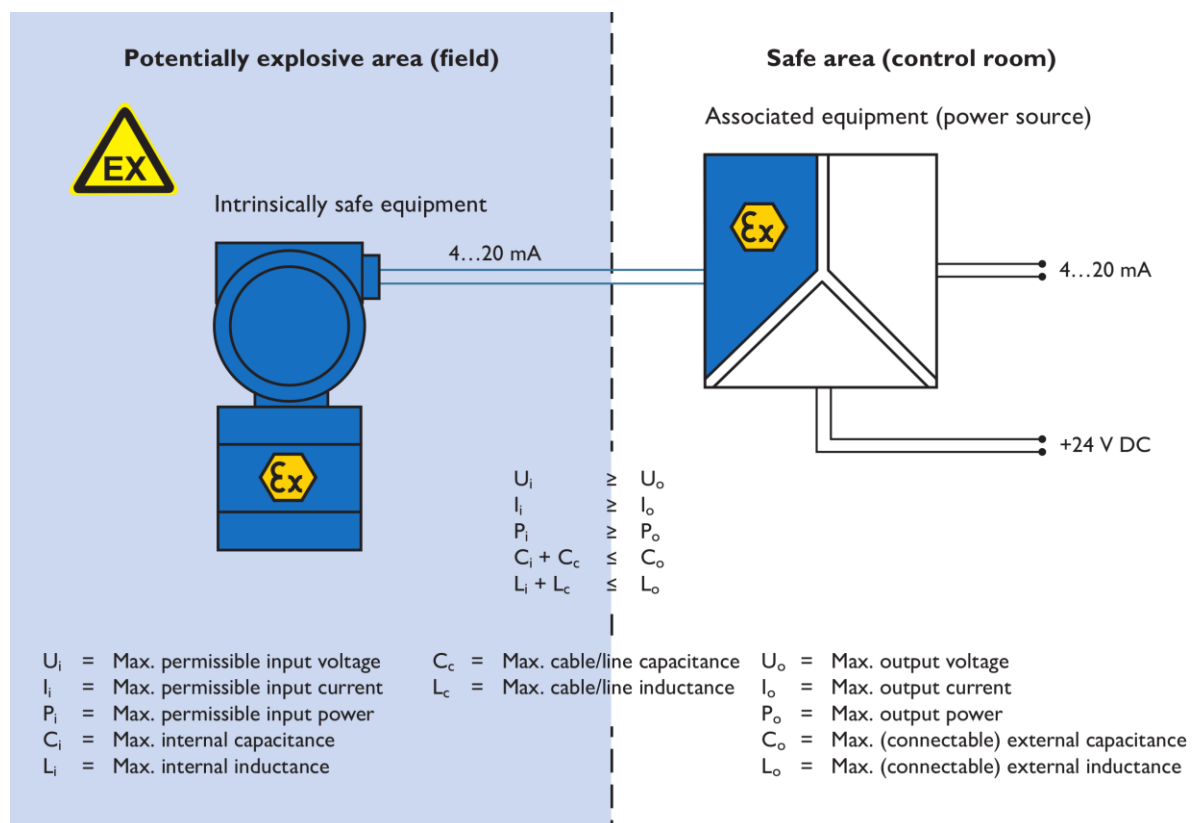
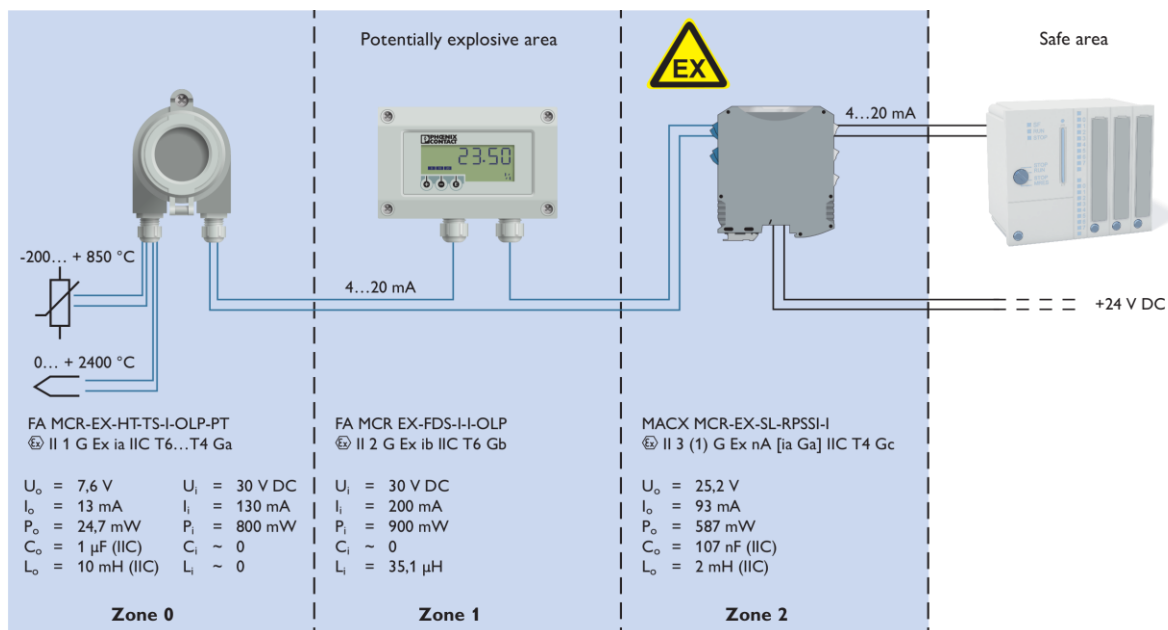

Figure 1 - Parameters and criteria of an intrinsically safe circuit
Figure 2 - Example of an intrinsically safe temperature measurement circuit
Figure 1 shows an intrinsically safe circuit marked in blue consisting of an associated item of equipment (source) with a linear or ohmic source characteristic curve, an intrinsically safe item of equipment, and the connecting cables (Figure 1). The figure also shows the safety technology parameters necessary for demonstrating intrinsic safety, along with the criteria that must be met to ensure the circuit is actually intrinsically safe. The parameters can be found in the EU examination certificates and user guides or data sheets.
In process engineering applications, process variables such as temperature, pressure, flow rate, moisture, or pH value in the Ex area are collected by intrinsically safe measuring transducers (transmitters) and converted into a 4...20 mA standard electrical signal. Of these, temperature is certainly one of the most frequently measured physical variables. For that reason, we have provided an example below showing how to verify the intrinsic safety of an intrinsically safe temperature measurement circuit up to Ex Zone 0 for a potentially explosive atmosphere resulting from a hydrogen/air mixture. The Ex i measurement circuit consists of an interconnection between a MACX MCR-EX-RPSSI-I repeater power supply as the active associated equipment item with a linear source characteristic curve and two passive intrinsically safe items of equipment: an FA MCR EX-HT-TS-I-OLP temperature transmitter and an FA MCR-EX-DS-I-I process indicator (Figure 2).
- The five criteria listed in Figure 1 for comparing Ex i criteria have been met. This precondition is met according to the Ex i parameters shown in Figure 2. In addition, we are dealing with a mixed Ex i circuit for which there is no need to use the 50-percent rule. Only the process indicator has a concentrated inductance of 35.1 μH . Therefore, based on calculations, a cable length of 750 meters is possible with a specific cable capacitance C_c of 140 nF/km and a cable inductance L_c of 1 mH/km with a C_o value of 107 nF, and a cable length of 1964.9 meters is possible with an L_o value of 2 mH and a C_i value of 35.1 μH .